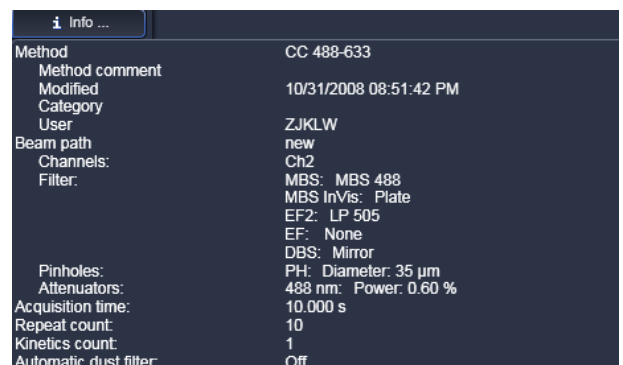

Fig. 9-5 Method tool box with method Information window opened
- Click on the **Method Information** tab to display a detailed description of the highlighted method including name, comments, configurations and parameter settings (Fig. 9-5). Click a second time to close the information window.